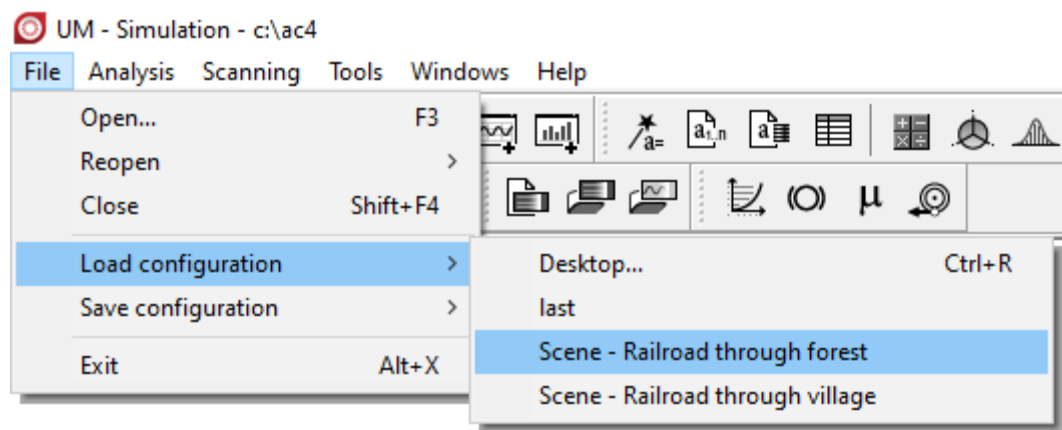

Figure 30.2. Preliminarily prepared configurations for the AC4 model
- AC4 rail car model includes two configurations with scenes: [**Scene - Railroad through village**] and [**Scene - Railroad through forest**]. To have a look at them run UM Simulation program, load the model from the following folder *{UM Data}\Samples\Rail_Vehicles\ac4*, then using the **File| Load configuration** menu item load configurations listed above, see Figure 30.2.